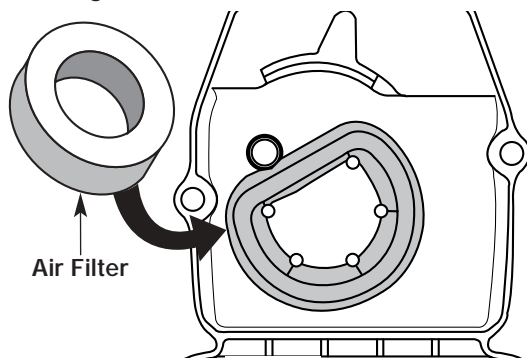

Fig. 21
2. Remove the air filter from behind the air filter/muffler cover. (Fig. 21).
6. Replace the air filter in the air filter/muffler cover (Fig. 21).